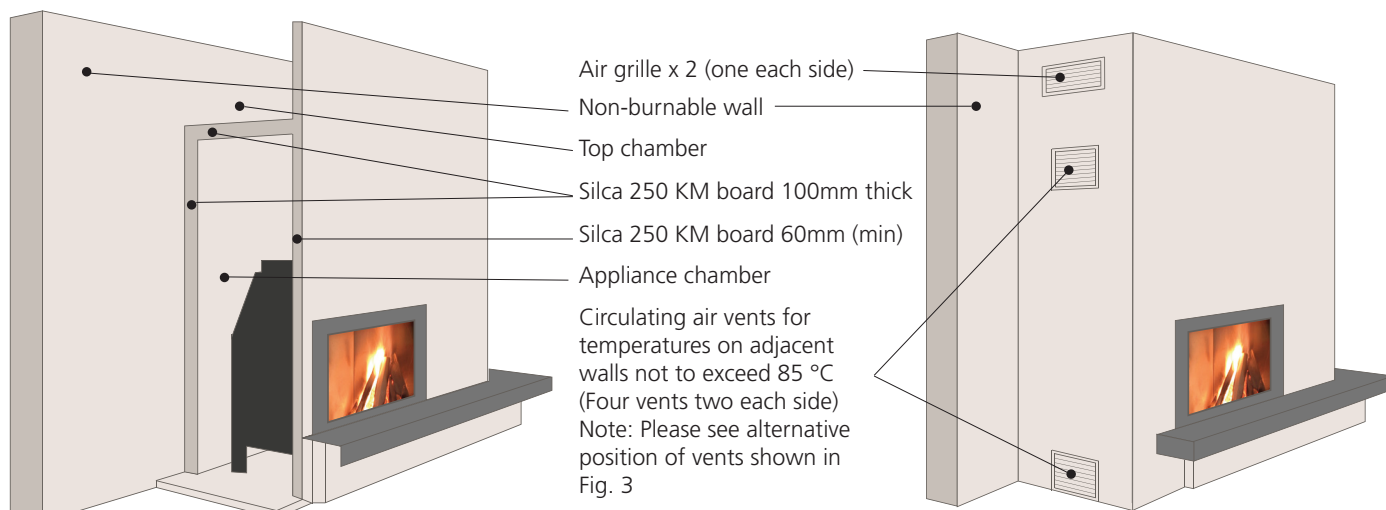

Fig 1. Non-burnable adjacent walls less than 200mm thick with a density of not less than 1200 kg/m³
- » The top of the rear board is used to locate and support the roof of the chamber, all seams/joints should be joined and panel fixed in place using Silcadur-HFS adhesive and non-corrosive dry wall large threaded screws. (see Fig. 1)
- » A way of achieving this would be to fit two air vents to the appliance chamber in the area above the appliance and a further two to be fitted in the area below the appliance (see Fig 1).